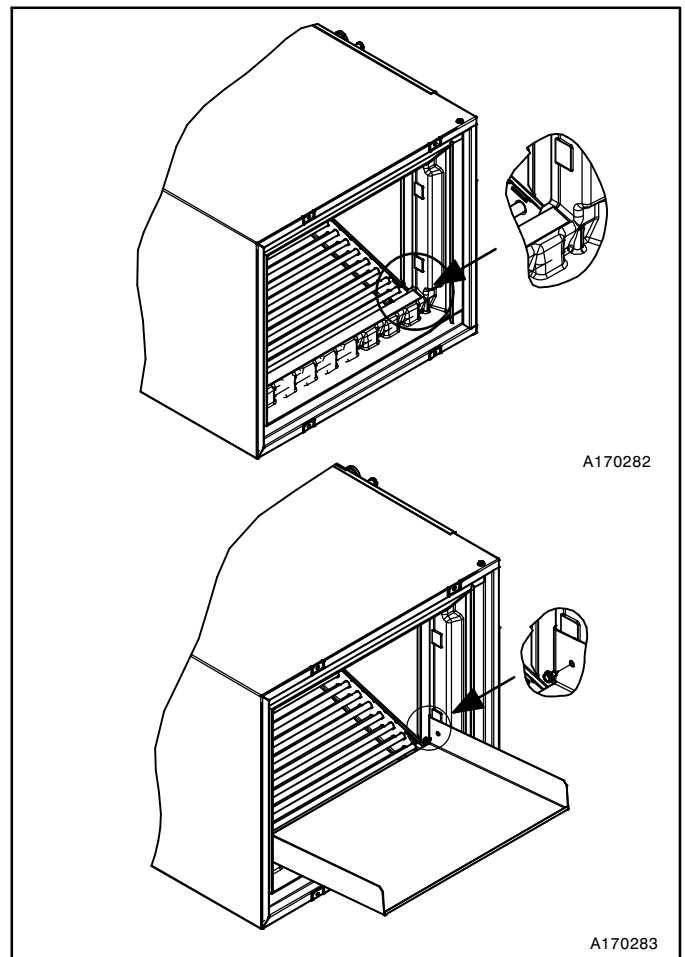

Figure 6 – Condensate Pan Extension (Required for all Horizontal Right Installations)
6. Install included condensate pan extension and two corner screw as shown in **Figure 6**. Use cork tape to create air seal between the undersides of the pan extension and front of the vertical drain pan.